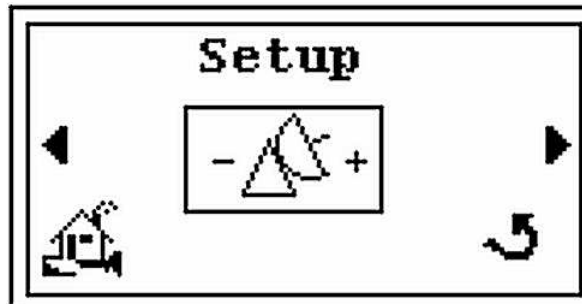

Figure 2-28 Setup Screen
3. Press the ► and the *Setup* screen appears (Figure 2-28).